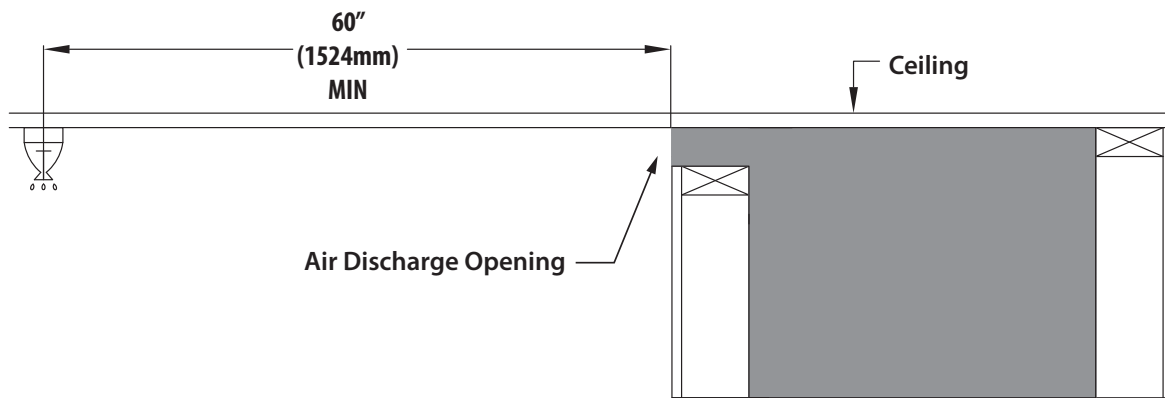

Figure 3.15, Clearance from Air Discharge Opening to Sprinkler Head
- In a situation where a sprinkler head is installed within the proximity of a vented cavity air discharge opening, Figure 3.15 MUST be followed.